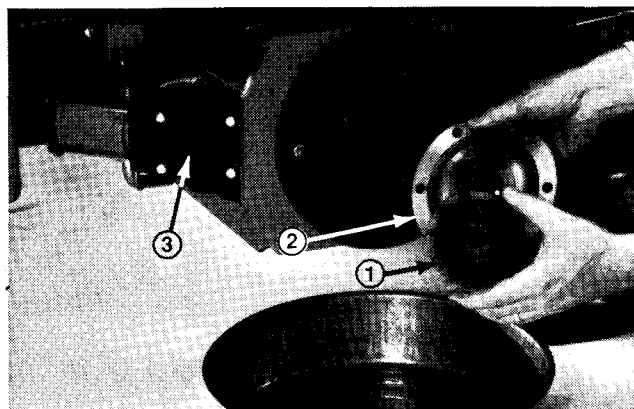
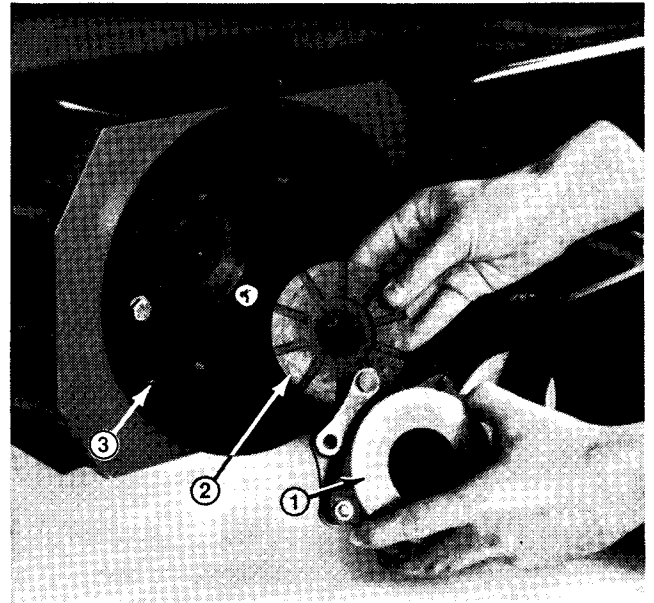

Figure 23
Figure 25
3. Remove brake housing cap and outer brake disc (Fig. 23).
4. Remove four (4) capscrews and remove cover from brake actuator housing (Fig 23).
6. Remove brake actuating disc assembly and inner brake disc (Fig. 25).
8. Inspect braking surface of brake housing (Fig. 25) and brake housing cap (Fig. 23). Replace parts as necessary.